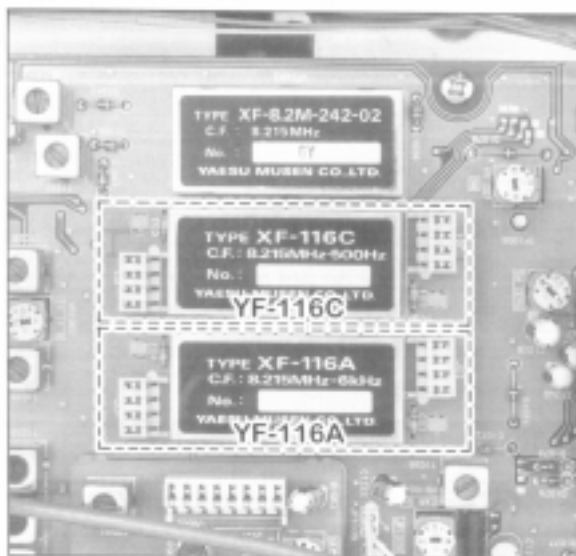

Figure 3
- ③ Refer to Figure 3, and push the optional filter board onto the pins corresponding to its assigned mounting location on the radio. Gently press the board down until it is firmly seated in its connectors.
- ④ Replace the bottom case of the transceiver.
- ⑤ Turn the transceiver on, and enter the Menu mode. Per the chart below, change the setting of Menu Item U-69 to “**On**” if installing the **YF-116C** CW filter, and/or change the setting of Menu Item U-70 to “**On**” if installing the **YF-116A** AM filter.
- ⑥ Filter installation is now complete.